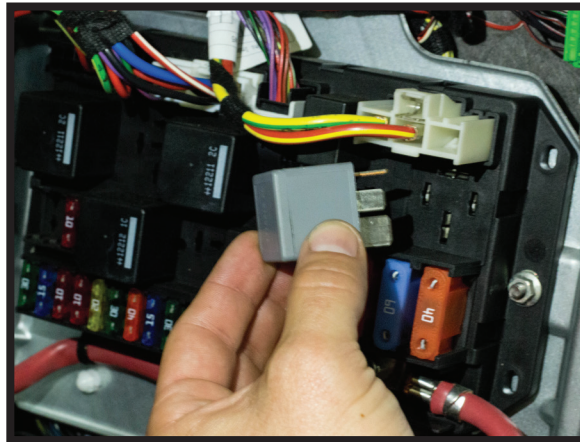

FIGURE 29
2. REMOVE THE COMPRESSOR RELAY AND REPLACE WITH THE UNIT PROVIDED IN THIS KIT. (FIGURE 29)